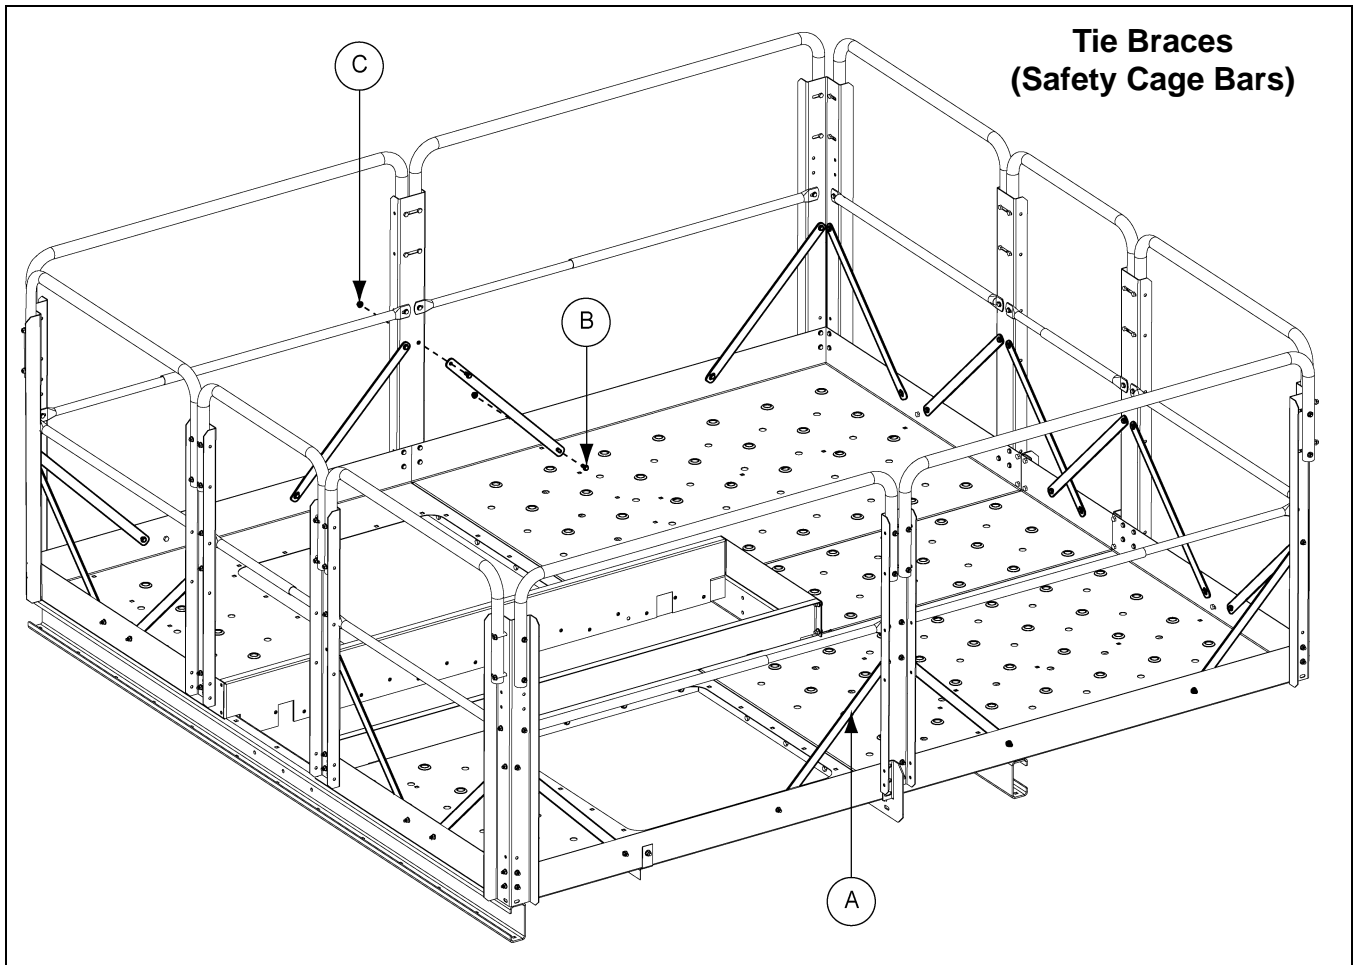

Figure 8V *Safety Cage Cross Brace*
1. At each of the four (4) "W" corner posts (HP1648HWP), attach two (2) tie braces (safety cage bar LDR-5171BE) from the lower half of the post to the deck kick plate using 5/16" nuts (S-3611) and 5/16" x 3/4" flange bolts (S-6606). *(See Figure 8V.)*